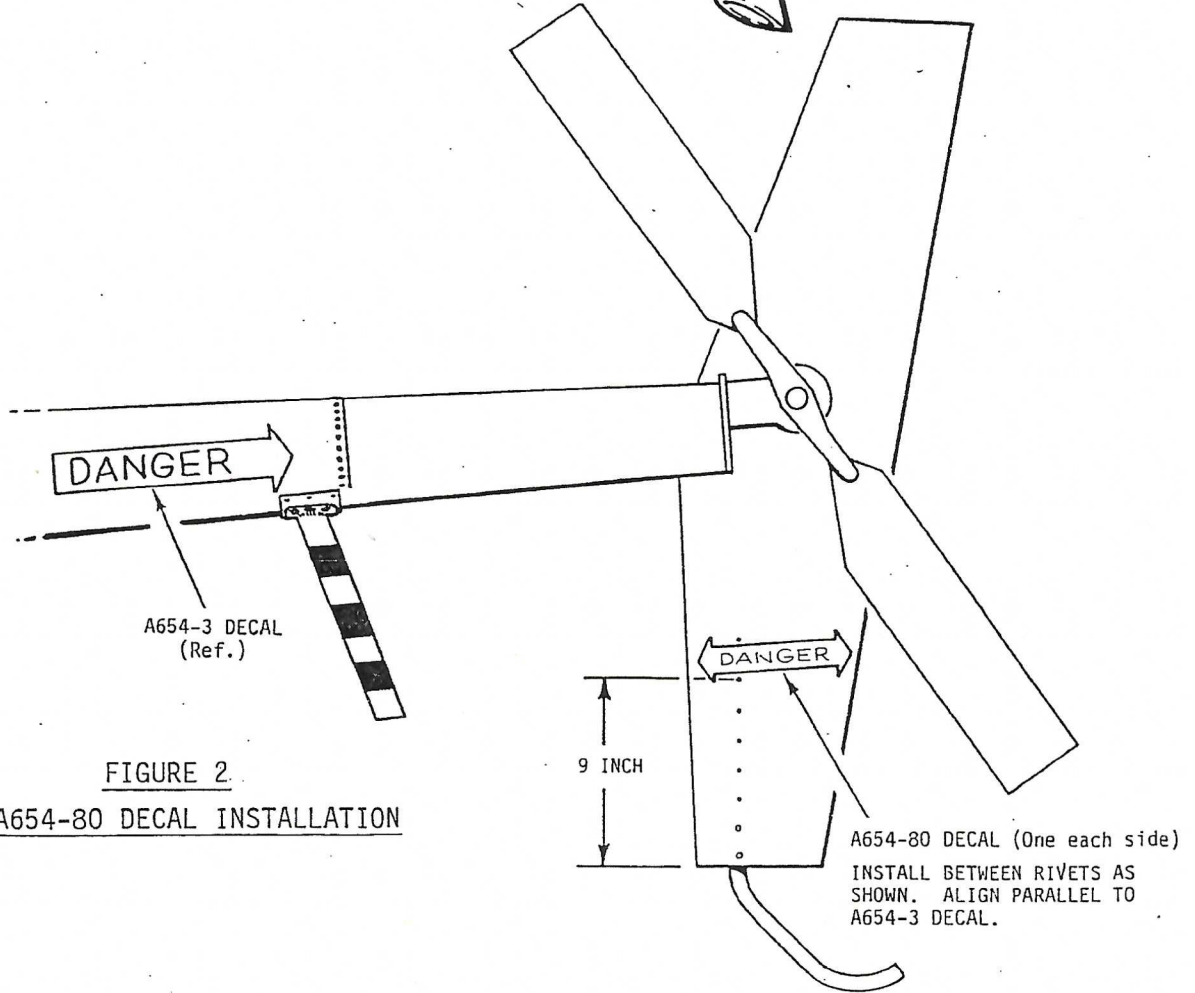

FIGURE 2
STEP 13) Apply the Danger decals to each side of the lower vertical stabilizer per Figure 2.